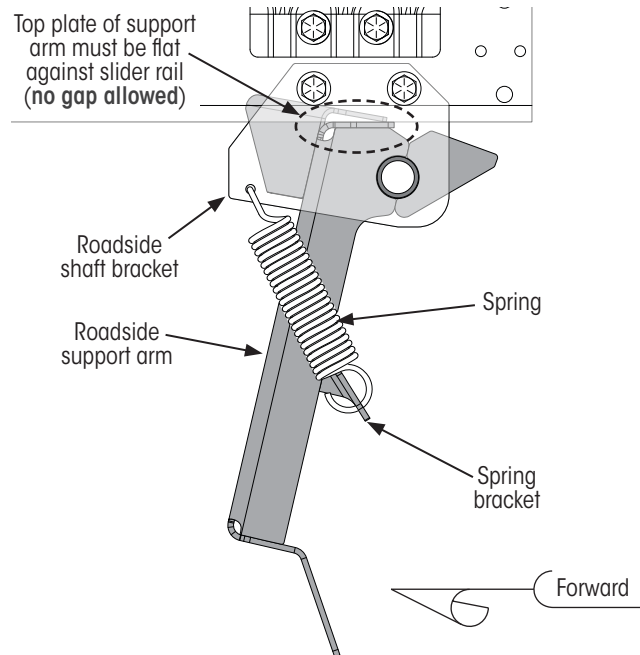

Figure 12: Verifying support arm assembly position
**NOTE:** At this time, spring tension should be holding the roadside support arm top front edge against the slider rail (Figure 12).
- A. Pull roadside support arm rearward and lift shaft up so the top of the support arm is flat against the slider rail (Figure 12).
9. Verify the top surface of the support arms are flat against the underside bottom surface of the slider rails and there is **no gap** (Figure 12) between the top of each support arm and the slider rail.
**IMPORTANT:** While engaged, the shaft of the support arm assembly must not assume any load from the trailer. To avoid this, verify there is **no gap** (Figure 12) between the top of each support arm and the slider rail bottom surface.